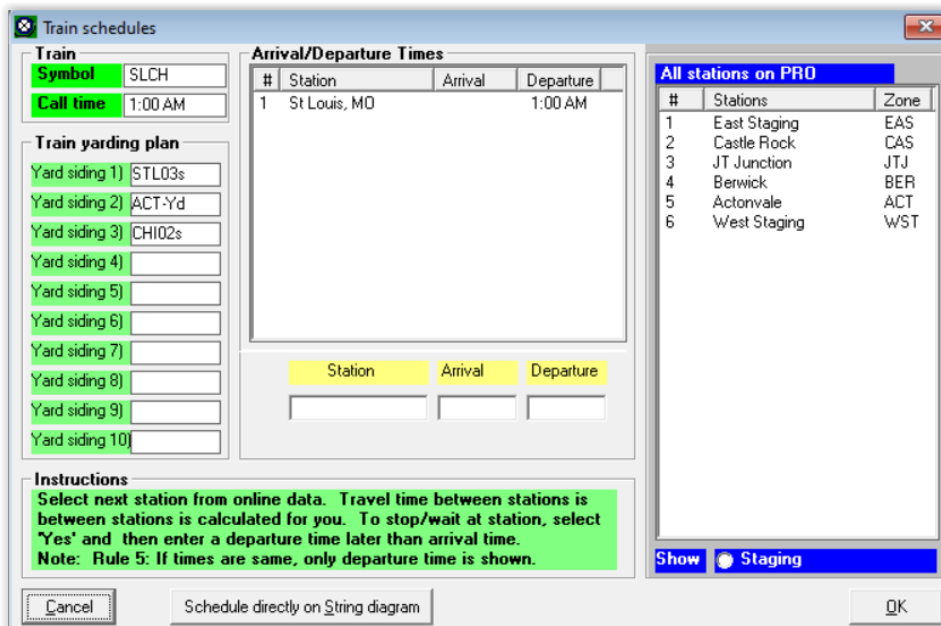

Figure 12-13
2. We need to select the train to edit. Click on the dropdown arrow beside the "Select Train to Schedule" data field and select "Symbol SLCH" from the list. A window like Figure 12-13 will appear. Only the departure from STL03s is shown in the Arrival/Departure Time list.
2. Use the "Select Train to Schedule" dropdown to select train SENY. This will open train SENY for scheduling and the window will be similar to Figure 12-13 except the Train Symbol will be SENY with a 2:30 pm Call time.